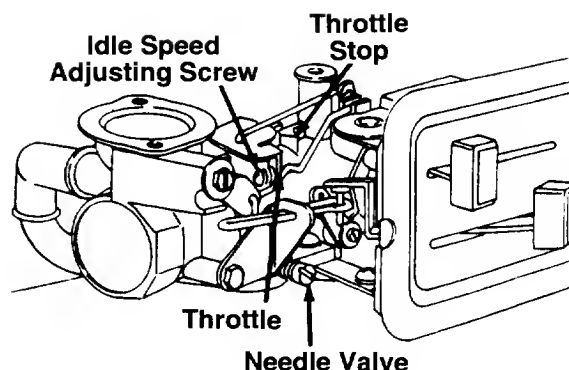

FIGURE 17.
- Close needle valve (see figure 17) clockwise (↻) finger tight only. Forcing may cause damage. Then open 1-1/2 turns counterclockwise (↺).